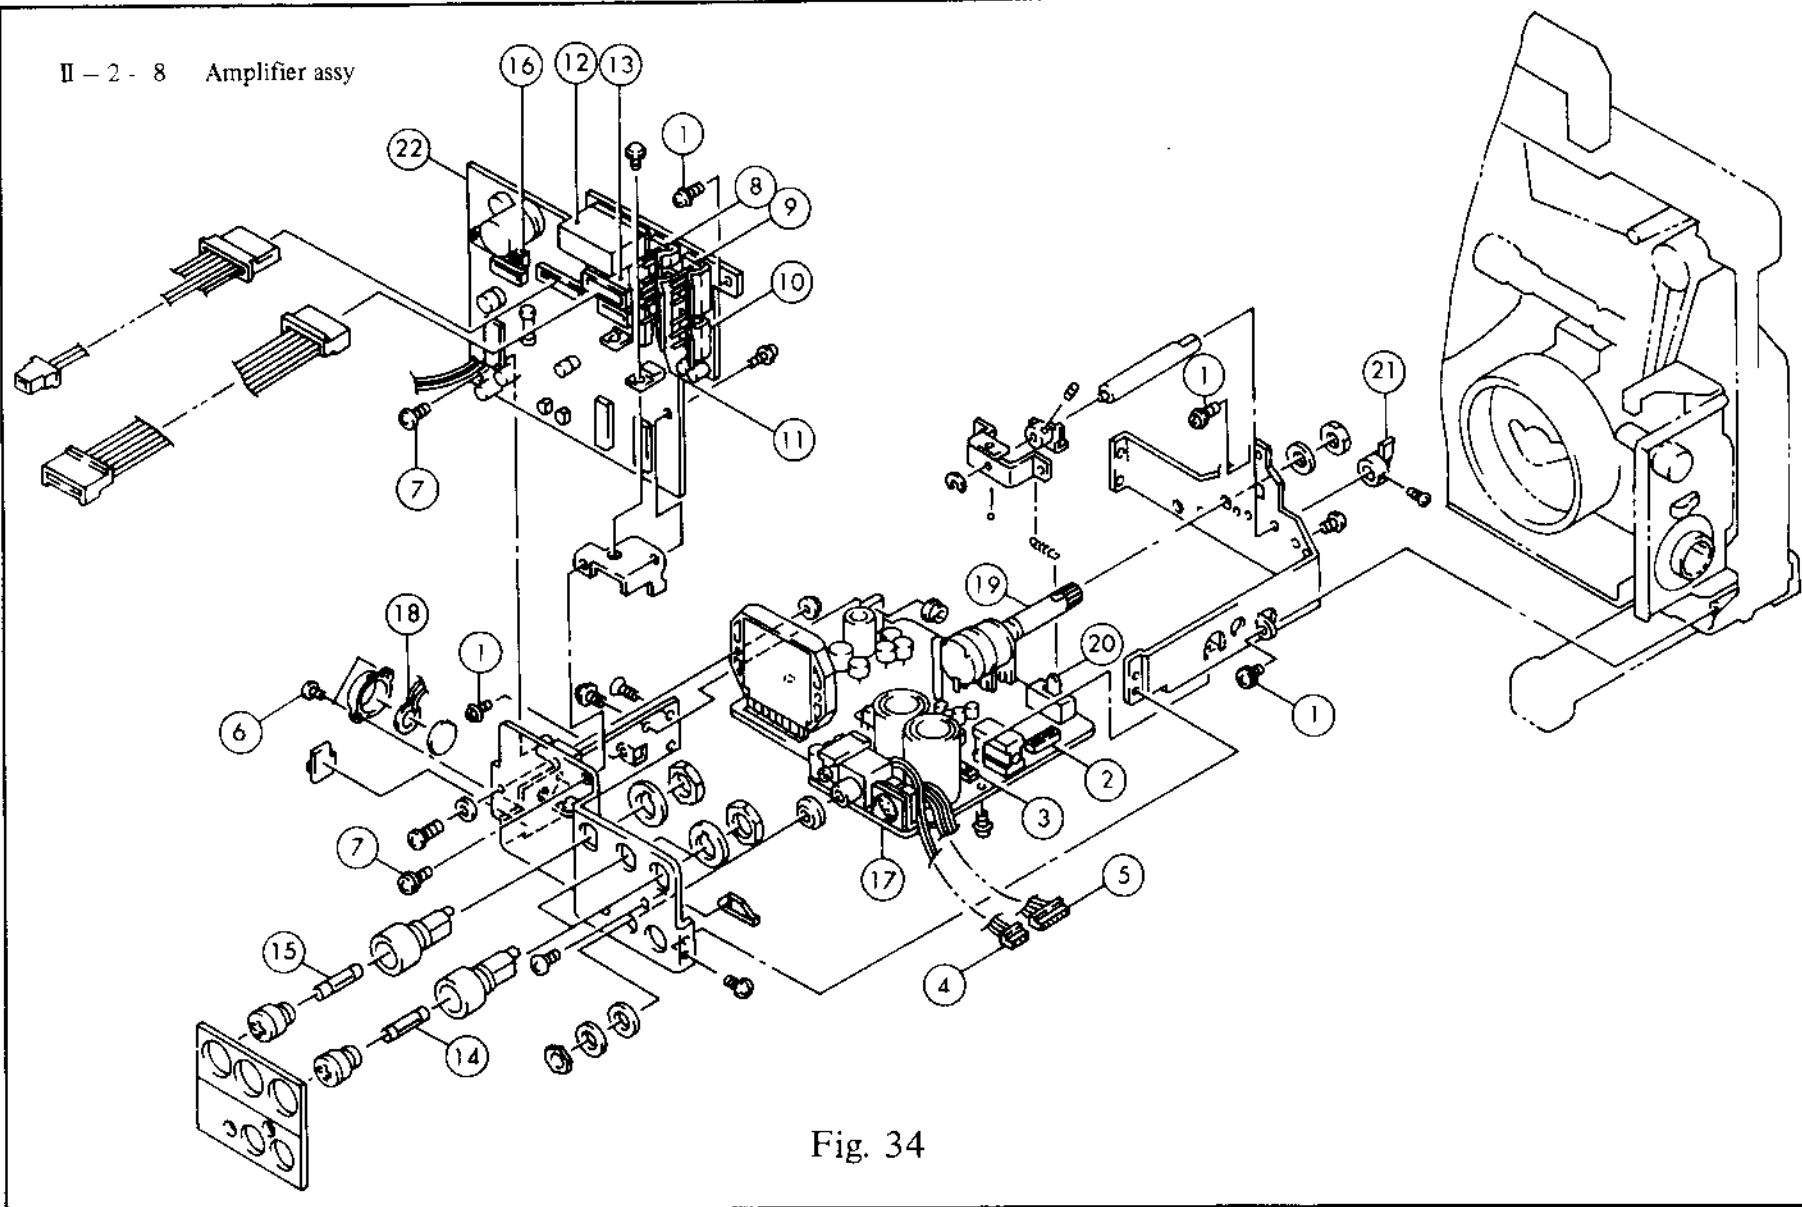

Fig. 34
3. Remove ① x 4 pcs. and take out the amplifier assy while disconnecting the connectors from ② and ③.
4. Disconnect the connectors from ④ and ⑤, and take out ⑫ by removing ⑥ x 2 pcs. and ⑦ x 2 pcs.
5. For further disassembly, refer to Fig. 34.